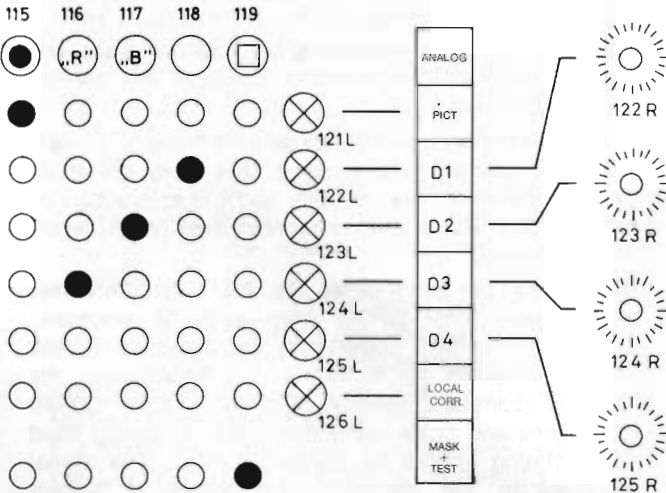
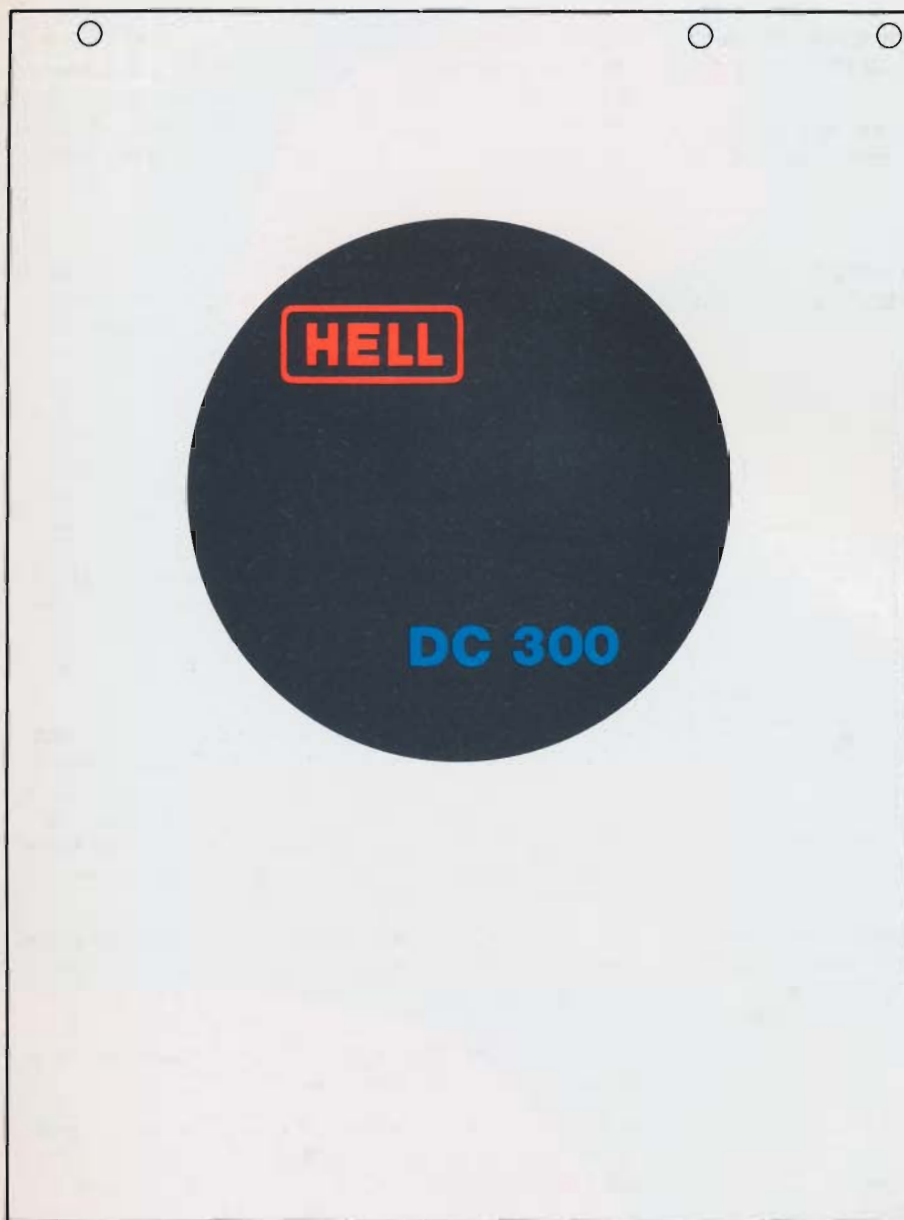

Fig. 7-1 Patch Panel
Fig. 7-2 Control Mask
By means of the patch panel, Fig. 7-1, it is determined which mask color control commands or electronic silhouetting control commands are assigned to the exposing signals for picture (color separation), for D1...D4 (constant density) and for LOCAL CORR. (local tone and color correction). The following fixed programming should be borne in mind: The signal assigned to the electronic silhouetting is always transmitted with priority over the mask color control commands. The control command for a mask color is therefore blocked if the electronic silhouetting has been switched on.
The patch panel (Fig. 7-1) is constructed as follows: In the top row there are five indicator lamps, "black" (115), "red" (116), "blue" (117), "white" (118) and □ "silhouetting" (119).
The MASK + TEST pushbutton (127) is used when the machine is at rest in order to test the indicator lamps and to release the fixed programming pushbuttons in order to check the control color changeover commands. The following is an example of the programming (Figs. 7-1, 7-2 and 7-3):
The control mask (Fig. 7-2) shows the region in which the picture (original) is to be placed filled in black. We now imagine a line running vertically from the "Black" indicator lamp and a line running horizontally from the "Picture" indicator lamp. At the point of intersection of these imaginary lines there is a socket into which a plug is inserted (Fig. 7-1). The switching command "Black" is now connected with the exposing command "Picture". Whenever the mask scanning head scans a black part on the control mask, the "Picture" signal is transmitted to the exposing lamp.
white or colored on a black background (Figs. 7-2 and 7-4). In most cases, lettering that has to be inserted is best mounted positive on an "auxiliary mask". This auxiliary mask is then copied on lith film. This copy is then made into the finished control mask. The lettering on it is negative. It has sharp contours which it retains even if it is not to remain white, but is to be underlaid with red or blue.